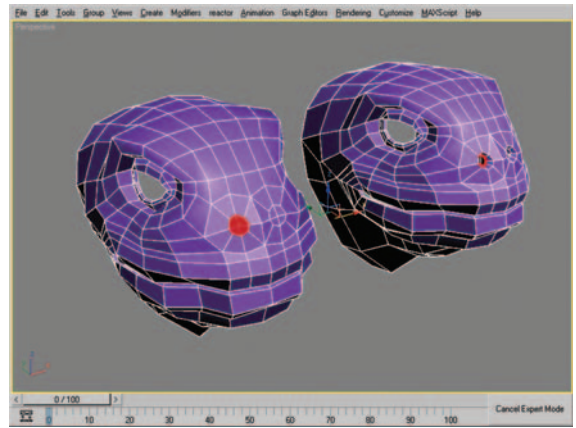

Figure 9.38 Polygon selection to delete and new border selection after shift-dragging it back into the nostril.
39. Select the polygons seen in Figure 9.38 (left) and delete them. Select the new border created when you deleted the polygons and shift-drag the selection back to give the nostrils some depth (Figure 9.38, right).